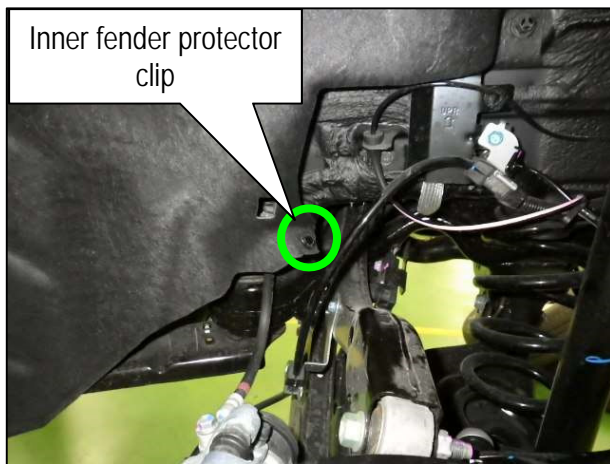
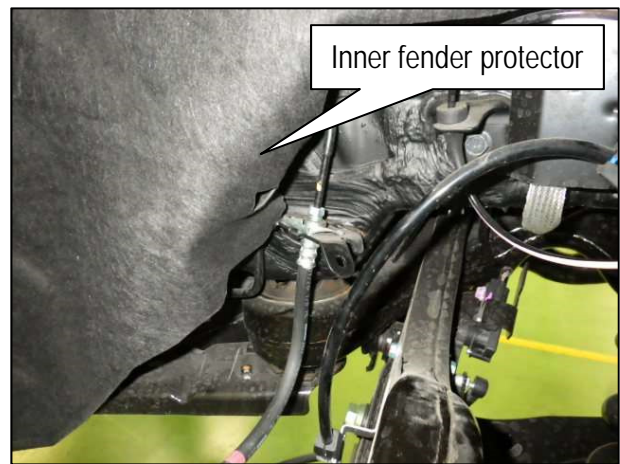

Figure 65
Figure 66
39. Remove the inner fender protector clip (Figure 65) and then position the inner fender protector out of the way as shown in (Figure 66).